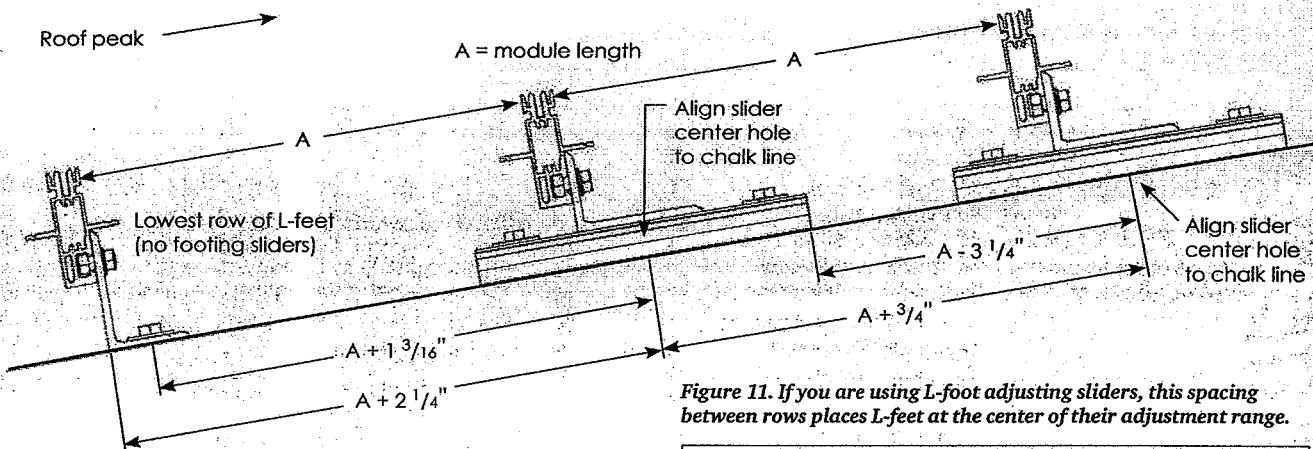

Figure 11. If you are using L-foot adjusting sliders, this spacing between rows places L-feet at the center of their adjustment range.
**With L-foot adjusting sliders:** Use a chalk line to mark the position of the slider center holes of the next row. The illustration below provides spacing guidelines. The length of the module (A in Fig. 11) includes any protrusions, such as lips or pan-head screws in its frame.